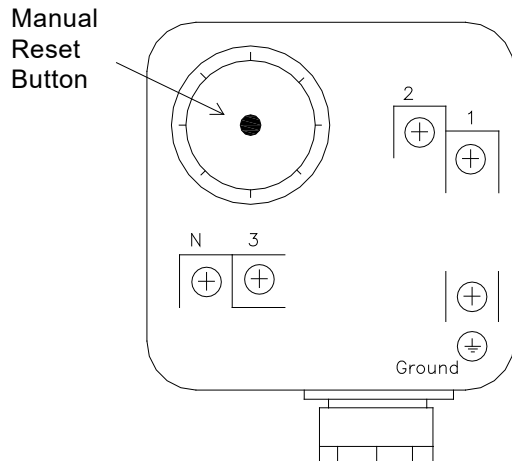

Figure 20: High/Low Gas Pressure Switch
12. If the high or low gas pressure switch tripped, it must be manually reset before the appliance can be restarted. (See Figure 20)